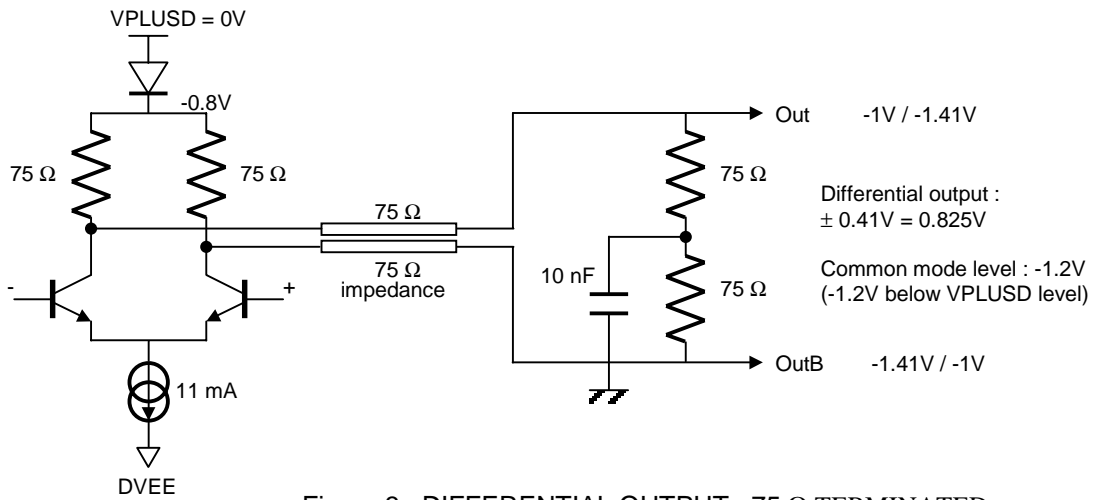

Figure 3 : DIFFERENTIAL OUTPUT : 75 Ω TERMINATED
The TS8388BF differential output buffers are internally 75 ohms loaded. The 75 ohms resistors are connected to the digital ground pins through a -0.8V level shift diode (see Figures 3,4,5 on next page).
1) 75 Ohms impedance transmission lines, 75 ohms differentially terminated (Fig. 3) :